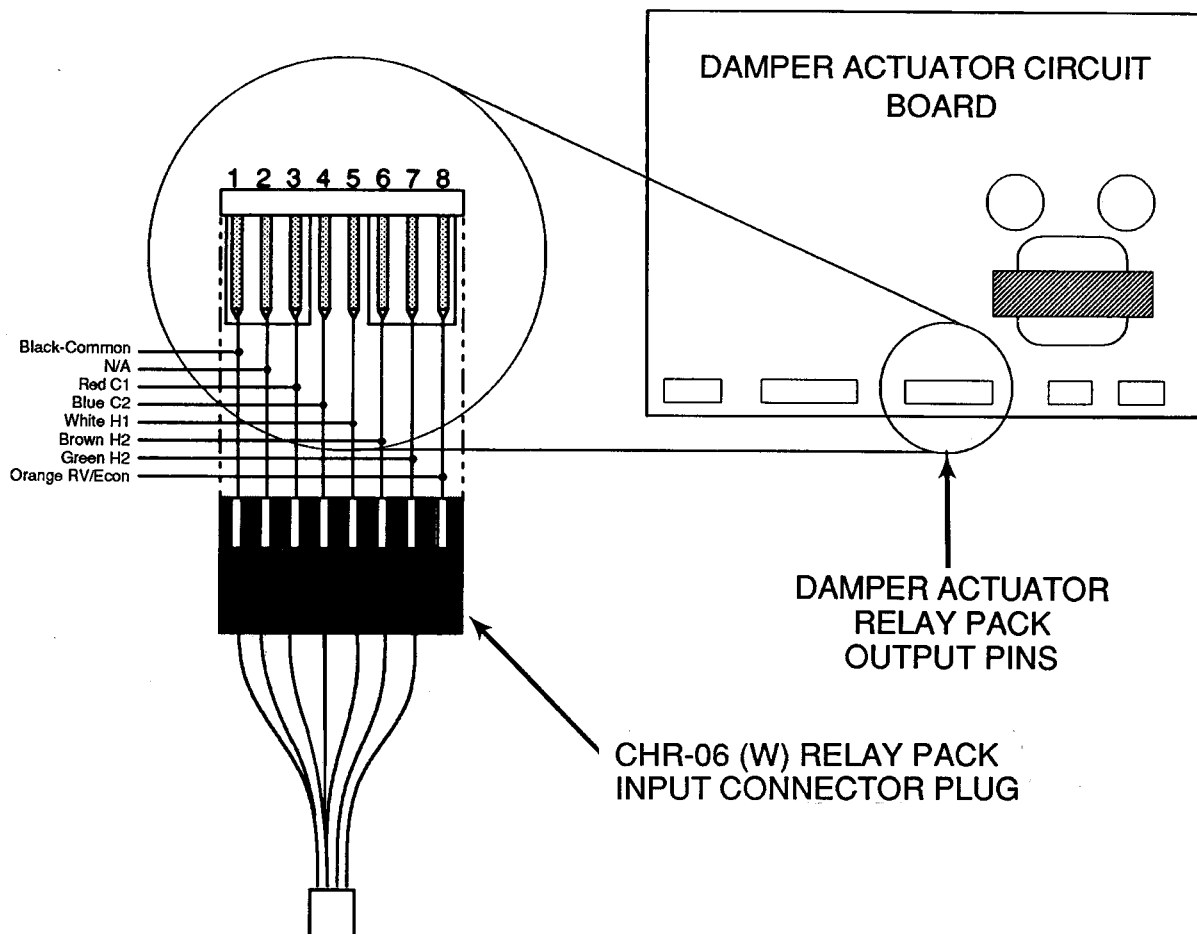

Fig. 26 — Damper Actuator Circuit Board and Pin Locations
1. Check the AC voltage across the relay board common (red) and any deenergized relay (H1 or C1 in Fig. 26). The voltage should read 24 vac. If not, check for wiring error.